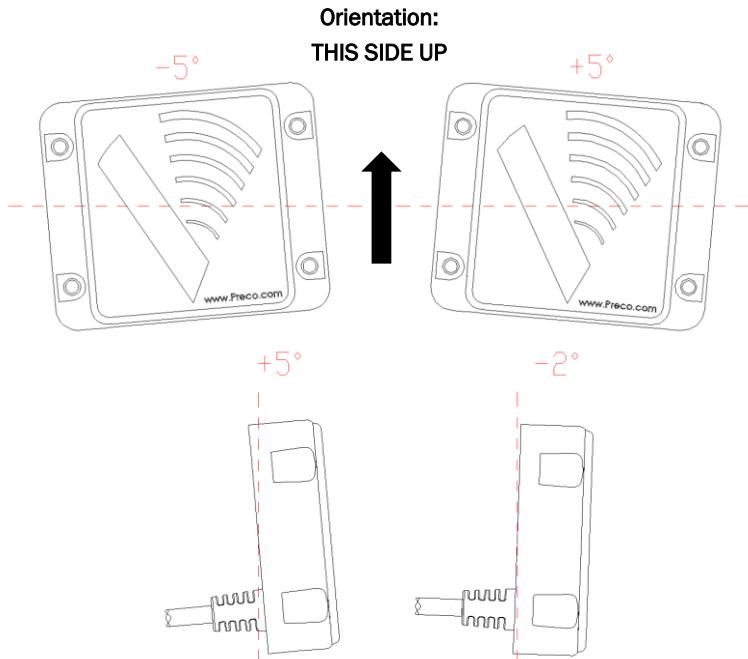
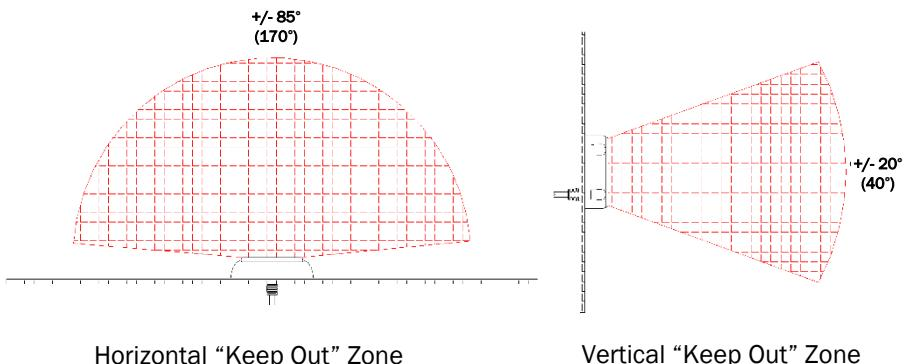

Figure 6. Vertical and Horizontal Angle Mounting Tolerances
Figure 7. Keep Out Zones
The PreView® sensor mounting location is integral to proper system operation. The sensor's detection zone must cover the blind spot you wish to monitor and the sensor must be mounted at the appropriate height. For example, to monitor a blind spot directly behind your equipment, the sensor should be mounted on the rear as close to the center of the equipment as possible. The sensor face should be perpendicular to the ground and oriented properly, see Figure 6. Select a location that will provide some protection from impact and debris while allowing an unobstructed field of view covering the targeted blind spot. Refer to the Keep Out/Interference Zones shown in Figure 7.
2. See Figure 6 for orientation of the sensor.
For optimal performance, the sensor should protrude beyond any other portion of the vehicle. If this is not possible, it is important to understand how surrounding objects can impact the sensor's performance. The sensor's horizontal field of view is $\pm 85^\circ$ (170°) and the vertical field of view is $\pm 10^\circ$ (20°); however, metallic and other strong radar reflecting objects outside but near this field of view can cause interference. These objects must remain outside the expanded area shown as the "Keep Out Zones" below in Figure 7. If your specific implementation requires radar reflecting objects to reside in the Keep Out Zones, testing must be performed to determine their influence on the sensor's performance.